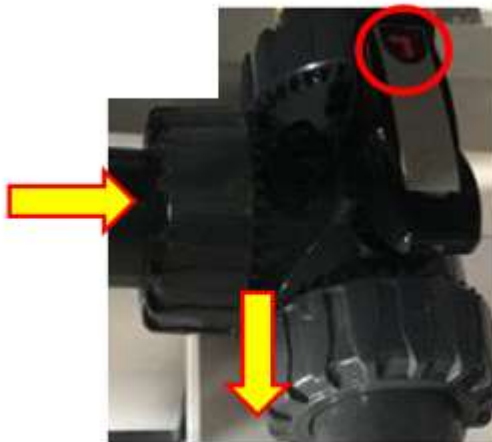

Figure 7.18 – Reject/Chem Diversion Valve
- 6) Position Valves - Rotate Reject/Chem Diversion Valve handle to recirculation, the red arrows on the handle indicate direction. In Figure 7.18 below, the yellow arrows indicate flow direction. This position will force the chemical cleaning to recirculate in the system.
- 9) POSITION VALVES - Rotate Reject/Chem Diversion Valve handle to discharge, the red arrows on the handle indicate direction. See Figure 7.18, the yellow arrows indicate flow direction. This position will force the chemical cleaning to recirculate in the system. Press Confirm and Continue.